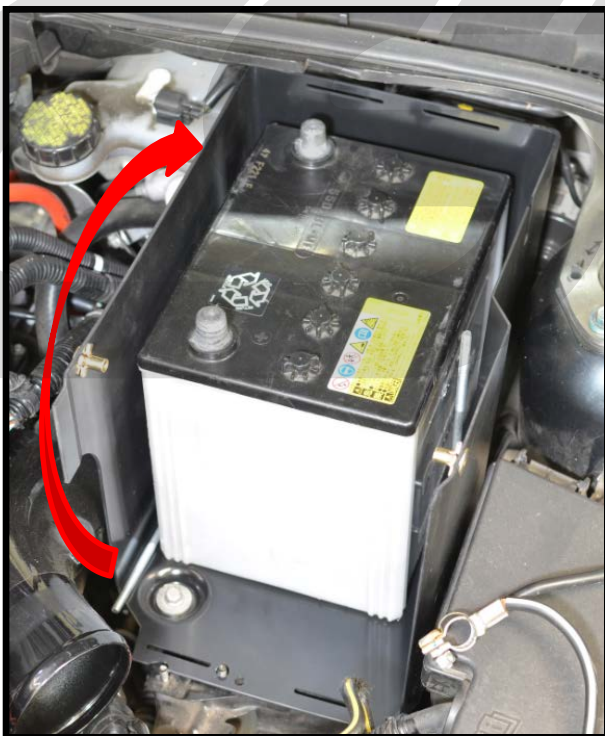

Figure 4b
- c) Install the provided battery tie down bracket. Rotate the passenger side L-hook up the side of the battery, then install the bracket, washer, and wing nuts. **Figures 4b & 4c**.